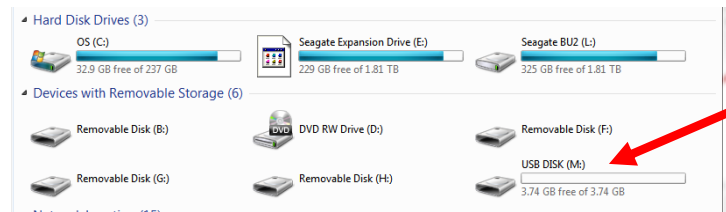

Figure 6
7. Locate the blank USB drive in the directory (see Figure 6).